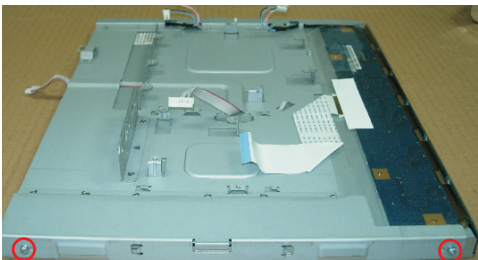

Fig.15
- Remove the two screws as shown in Fig.15